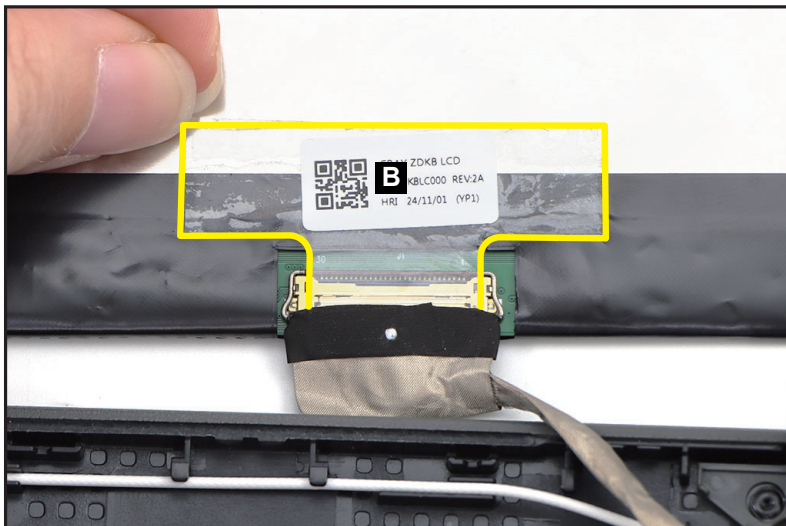

Figure 3-41. LCD Panel Removal
4. Detach the mylar tape (B) securing the LCD cable to the LCD panel (Figure 3-41).